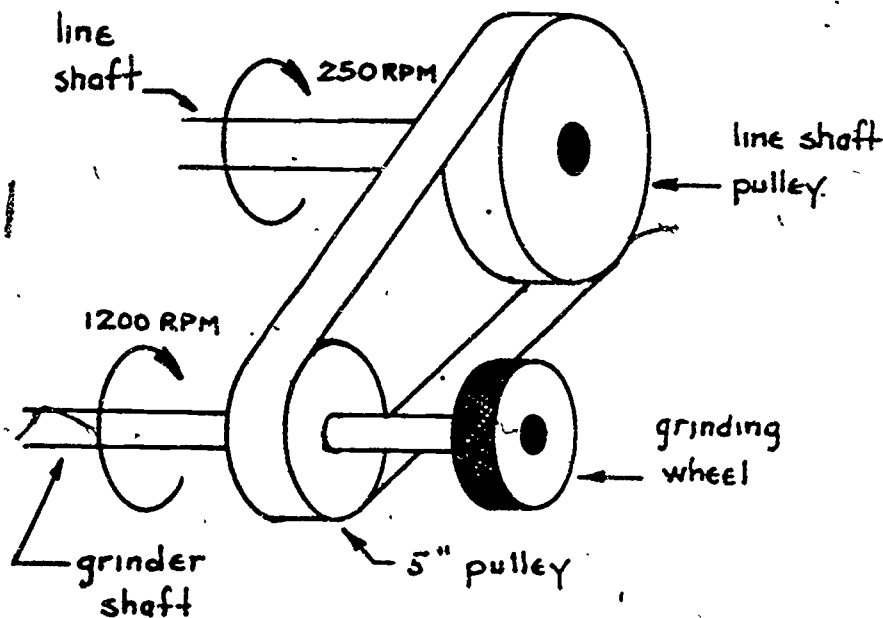

Figure 5: Find the diameter of the line shaft pulley.
2. At your job, you are using a grinder that is receiving power from a line shaft which is rotating at 250 RPM. The line shaft is connected to a 5-inch diameter pulley on the grinding wheel. If you need the grinder to turn at 1200 RPM, what size pulley wheel should be on the line shaft? Look at Figure 5 below.